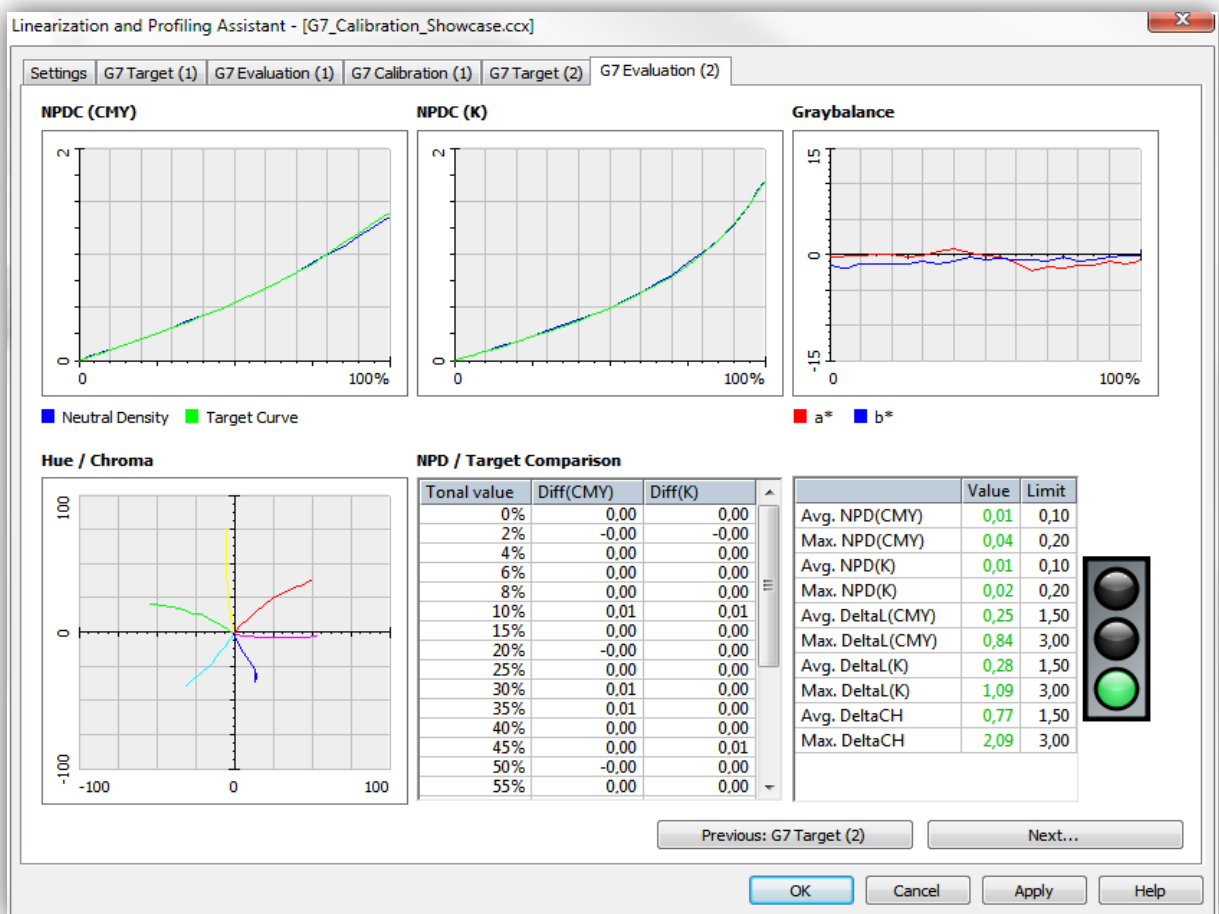

Fig.2 Iterated target evaluation after corrections are applied
- Iterated target evaluation (*see. Fig. 2 in Annex A*)